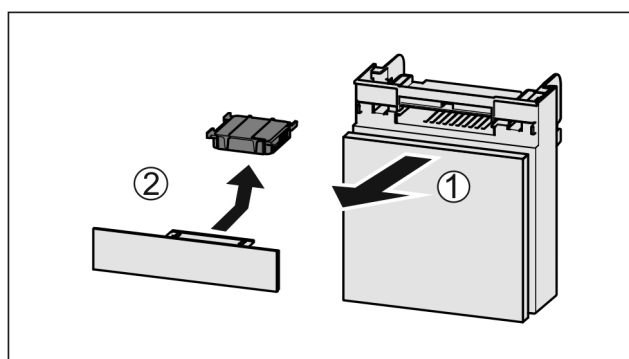

Fig. 36
- Pull out the compartment Fig. 36 (1).
- Remove the carbon filter Fig. 36 (2).